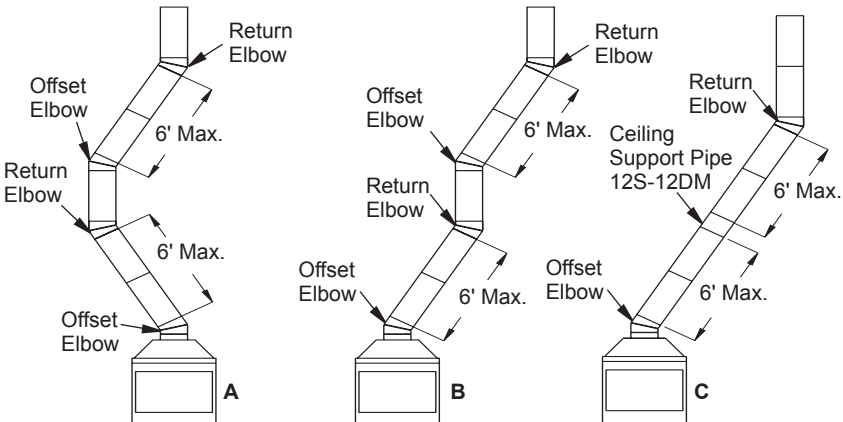

Figure 7 - Typical Offset Terminations
1. To achieve desired offset, you may install combinations of 12, 18, 24, 36 and 48" length of double wall pipe (see offset chart and Figure 7).
3. Maximum length of pipe between supports (return elbow or 12S-12DM) is 6' of angle run. Maximum of two 6' angle run sections per chimney system (see Figure 7).